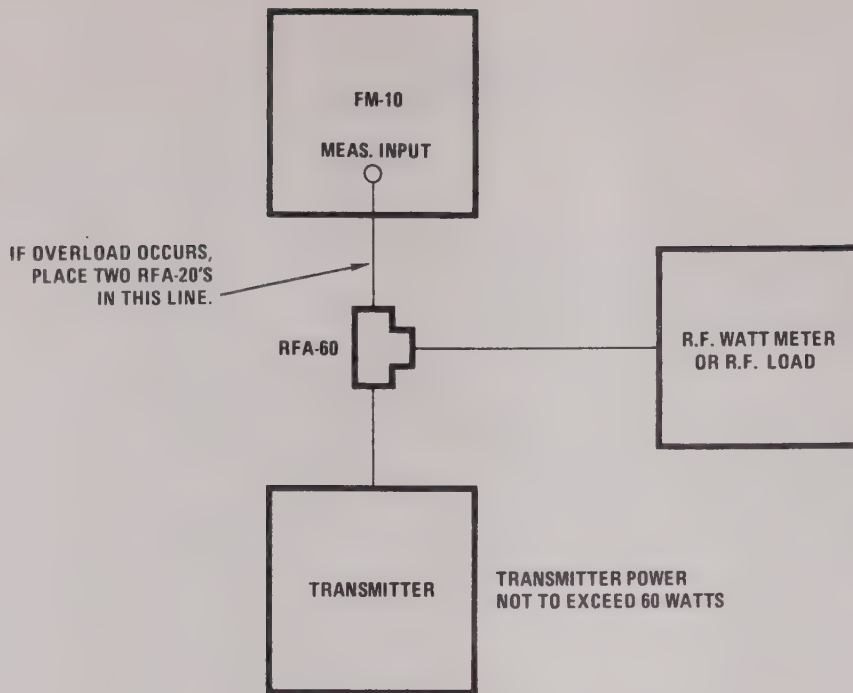

Figure 2-1. Direction Connection, Frequency Measuring Mode
- a. Connect RFA-60, load and unit under test as shown in Figure 2-1.